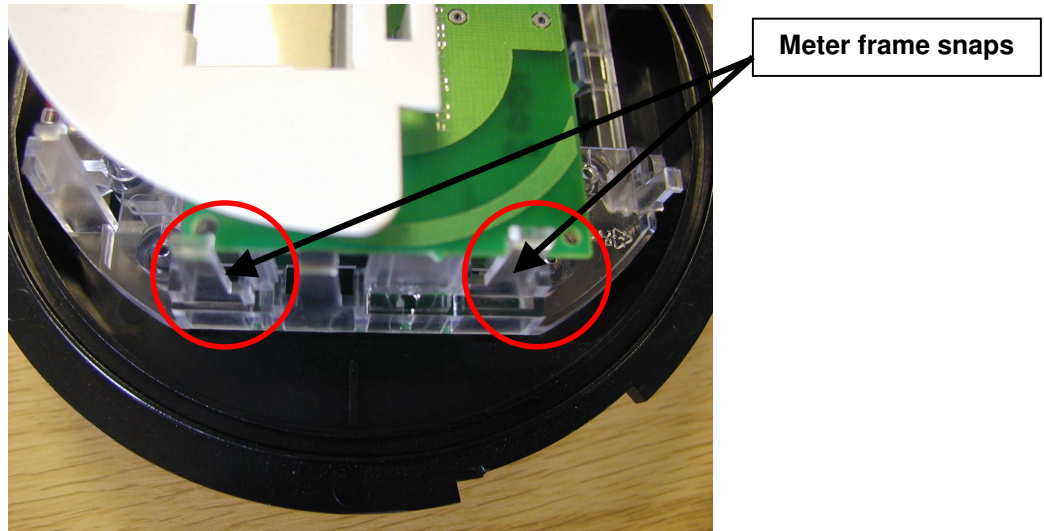

Figure 5: Meter frame snaps
7. Remove the upper circuit board (if fitted), one side at a time, by pulling gently outwards on the meter frame snaps (see Figure 5) while lifting the module up.